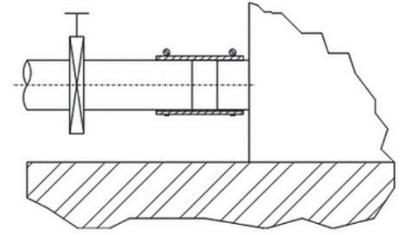

FIGURE-2.3
- Position the flex connectors in the final position and fasten the hose clamps refer to Figure-2.3.
Position the package in front of the terminal pipe as indicated as shown in Figure-2.3.
- Position the package in front of the terminal pipe as shown in Figure-2.3.